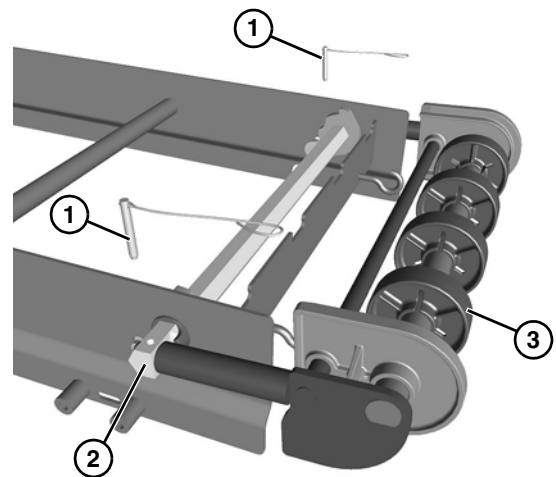

Figure 62
1. Remove the pull pins (Figure 62, item 1) from tip up hex shaft assembly (Figure 62, item 2).
2. Slide the idler tail assembly (Figure 62, item 3) out of the tip up hex shaft assembly.